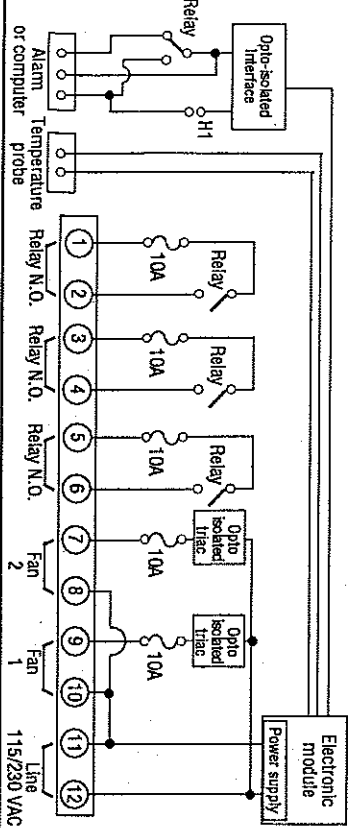

FIG. 4
- 3 Terminals 8, 10 et 11 are connected together in the unit's circuit. (see fig. 4)